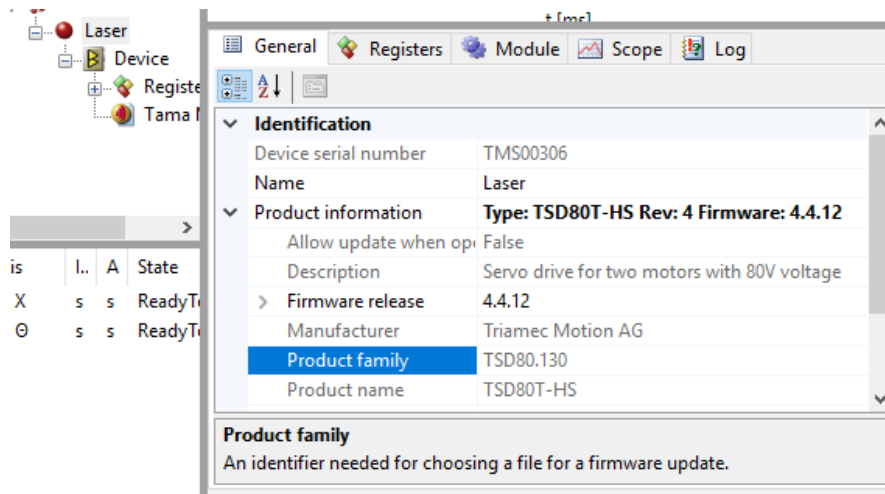

Figure 27: Station Properties.
2. Open the web-page matching the product type of your device (e.g. > **TSD Series**). If the product type of your device is not known, you can identify it by clicking the station of the device in the *Topology Tree*. This opens the property page in the **General** tab as shown in Figure 27. You will find the type of the device under **Product Information**. The property page also shows the currently installed firmware version and the product revision which could also be relevant for the selection of the firmware.